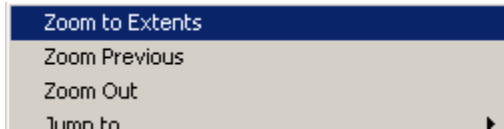

Figure 2: Right mouse button menu
3. Click the right mouse button to obtain a list of options and choose **Zoom to Extents** (see Figure 2).